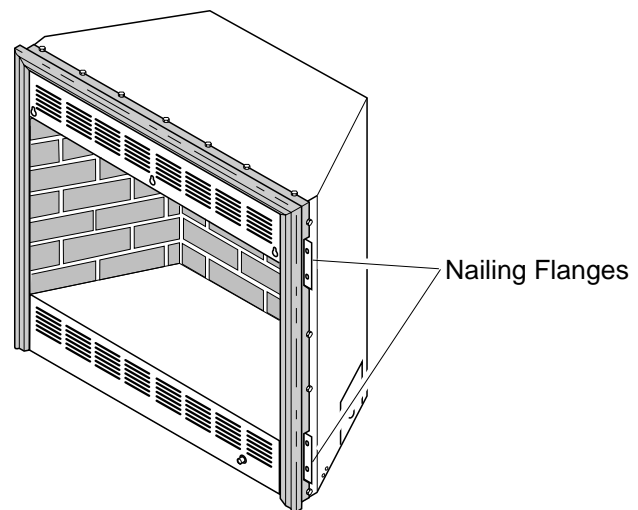

Figure 16 - Location of Nailing Flanges
7. Break off nailing flanges (see Figure 16) with hammer or pliers. **IMPORTANT:** If installing Brass Trim Kit GA6090, see instructions included with brass trim accessory.